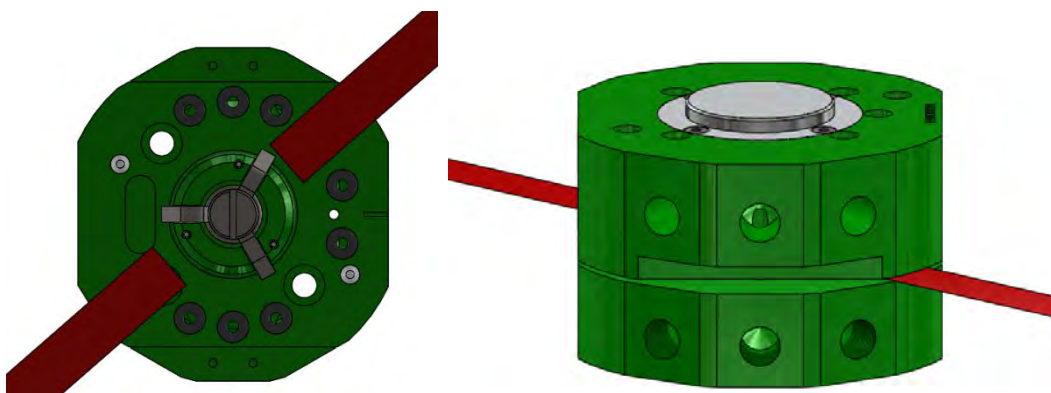

Figure 8.1.3-3. Shim Test of the Cam Locking Mechanism
11. Repeat steps 6 through 9 for each location shown in Figure 8.1.3-3.